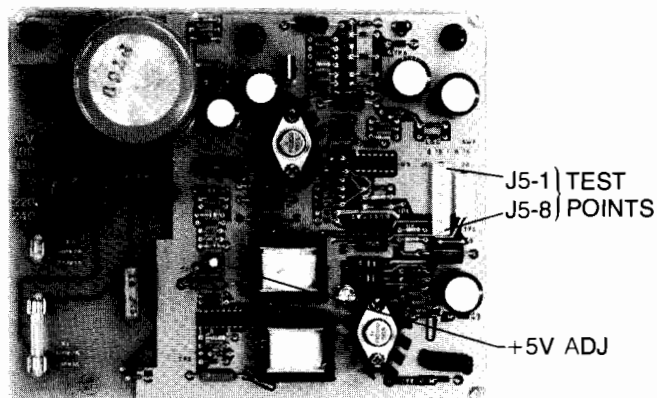

Figure 5-1. 2622A/D Power Supply PCA (02620-60004) Test Points and +5V Adjustment Locations
4. Using a 20,000 ohms/volt voltmeter, check the Power Supply PCA voltages (table 5-1 and figure 5-1, 5-2, or 5-3) for accuracy. A fine-tipped voltage probe can be easily inserted through the holes in the cable connector (J5).
5. Adjust the +5V potentiometer (figure 5-1, 5-2, or 5-3) until the +5V and +12V (and 16.1V for option 050) sources are within tolerance. If they cannot be adjusted to be within tolerance or if the -12V source is out of tolerance, refer to the Troubleshooting Section.